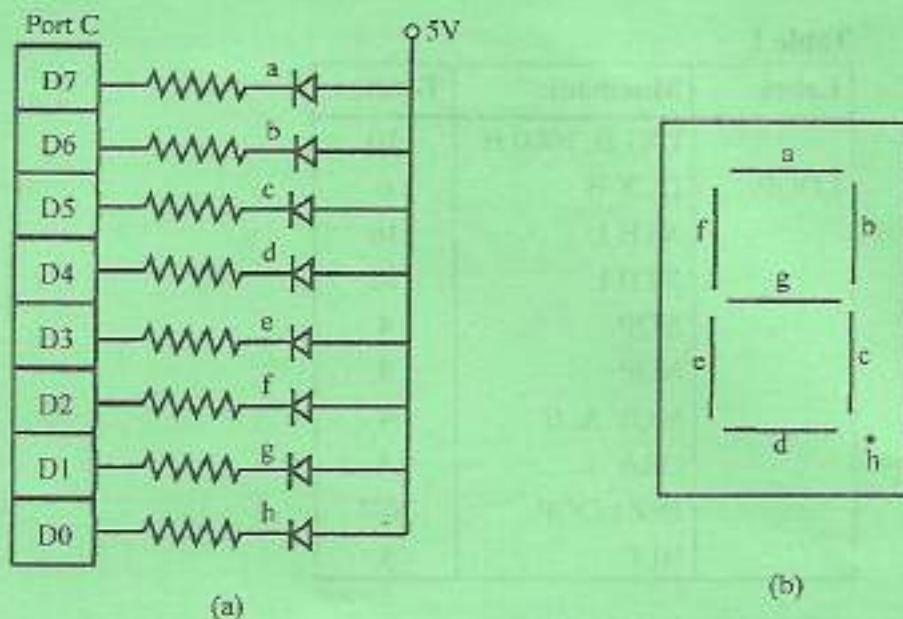

Fig. 1
- (d) Figure 1 shows an interfacing of 8085 microprocessor to a seven-segment display.